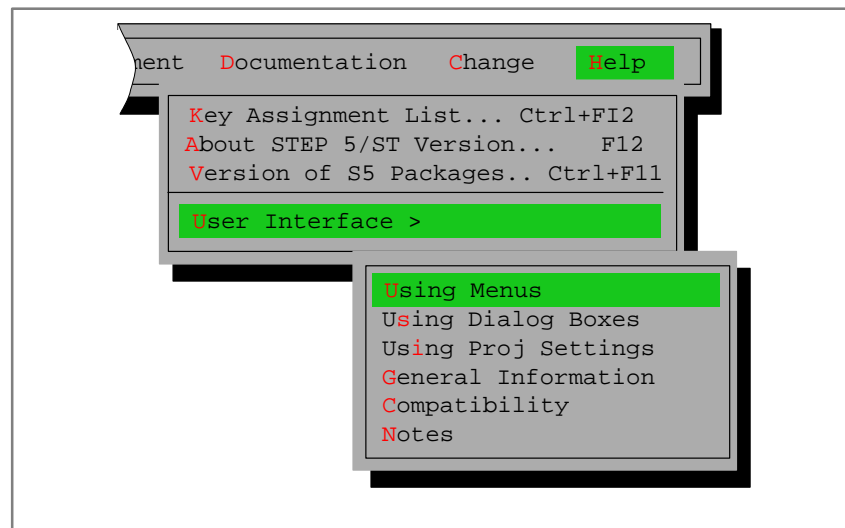

Figure 3-3 Help Menu
- **Help topics:** Provides various ways of displaying help information, see Figure 3-3.
- **Using Help:** See Figure 3-3 menu **Help ► User Interface ►** or the **Help Shift+F8** key displays a description of the options available to find certain information in the help system.